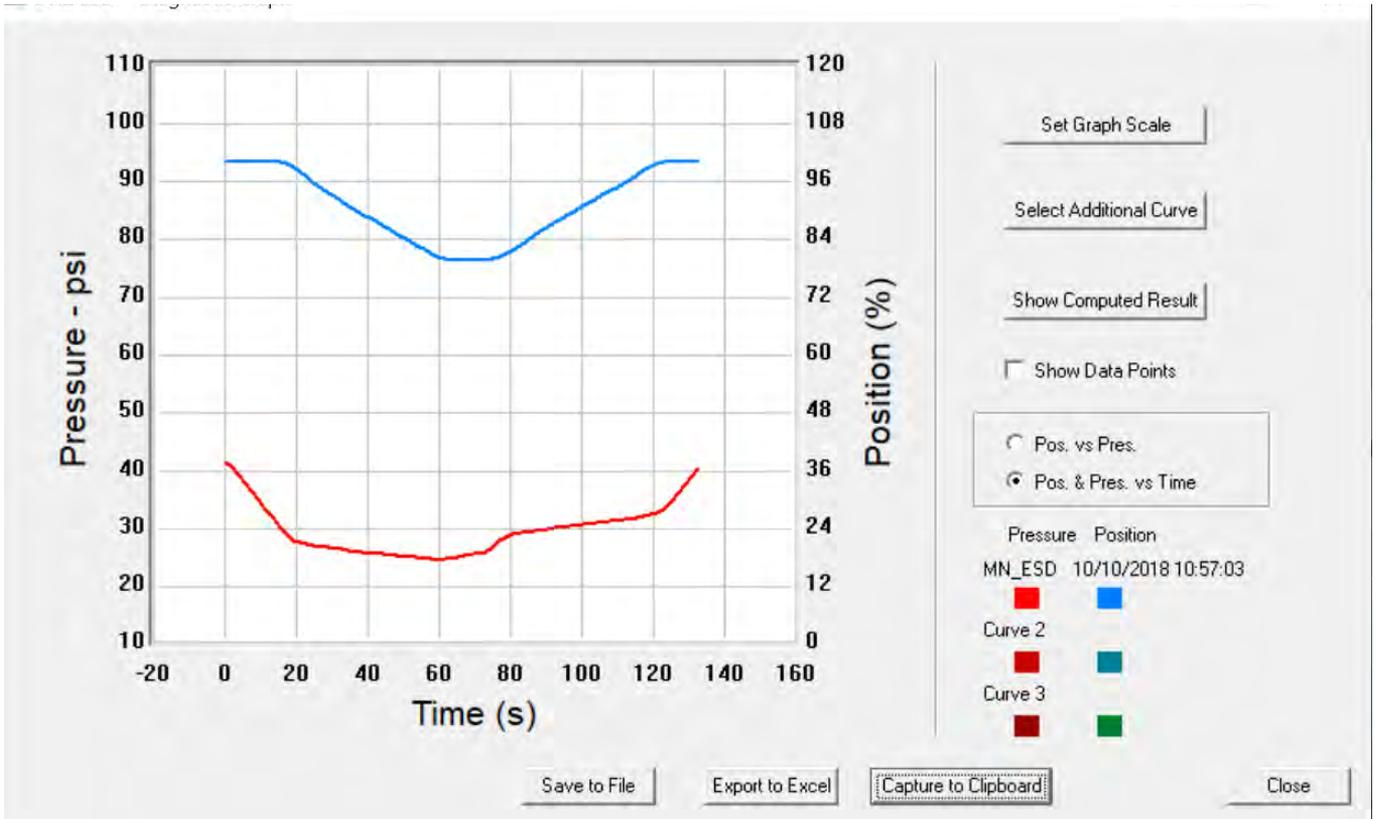

Figure 272 Position and Pressure vs. Time View
- Pos. & Pres. vs Time - Position and Pressure vs. Time*, an additional view displayed above the *Position vs Pressure* view, that displays the ramp down and up of the PST, and is represented by the blue curve as shown in Figure 272.
- Click the **Pos. & Pres. vs Time** radio button beside (Figure 272).